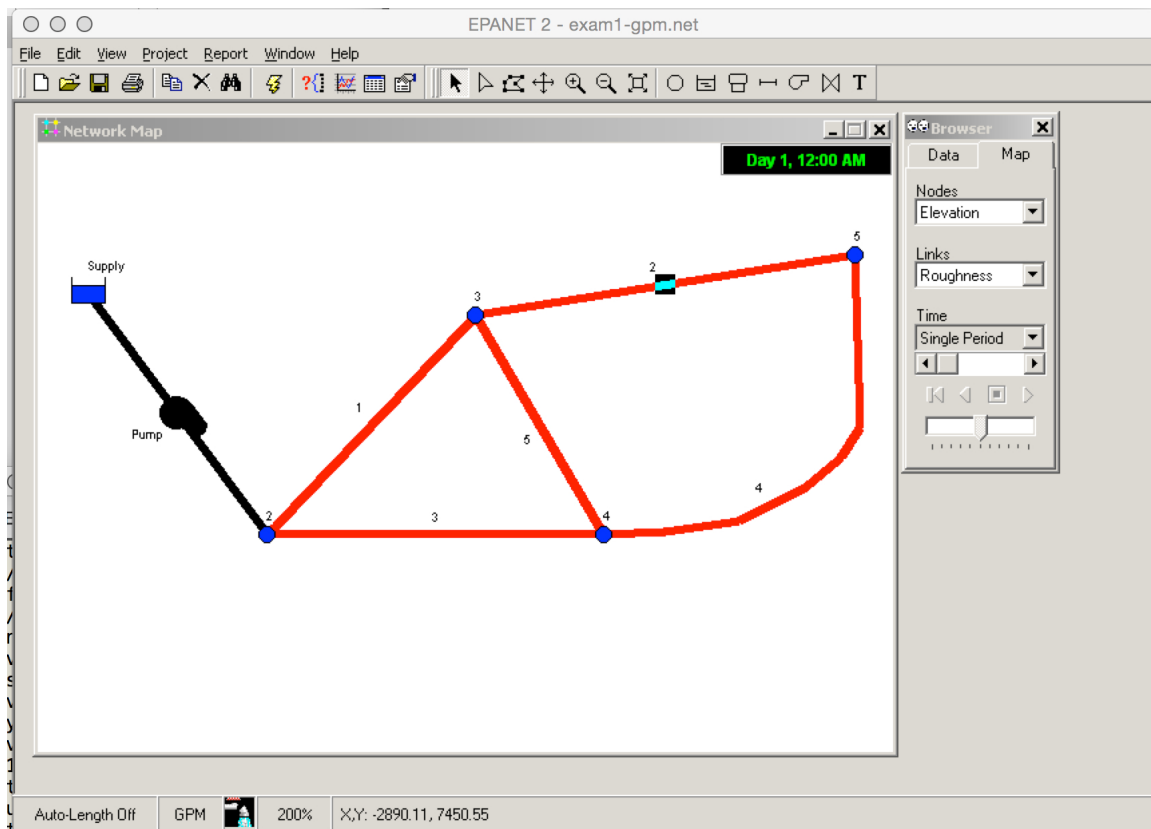

Figure 3: EPA-NET system topology.
- (A) 0.24 cms (cubic meters per second)
- (B) 0.31 cms
- (C) 3.52 cms
- (D) 3.91 cms
- (E) 4.41 cms
- (F) 4.45 cms
- (G) 5.57 cms
- (H) 6.66 cms
- (I) 7.38 cms
- (J) 9.31 cms
7. (46 pts.) An EPA-NET simulation model for a reservoir-pump-network was constructed and operated for four (4) different operational scenarios. Figure 3 is a depiction of the network. The numbers next to the nodes are Node\_ID values in the reports that follow, and the numbers next to the pipes are the Link\_ID values. The network is supplied from a reservoir through a booster pump, both are depicted on Figure 3.